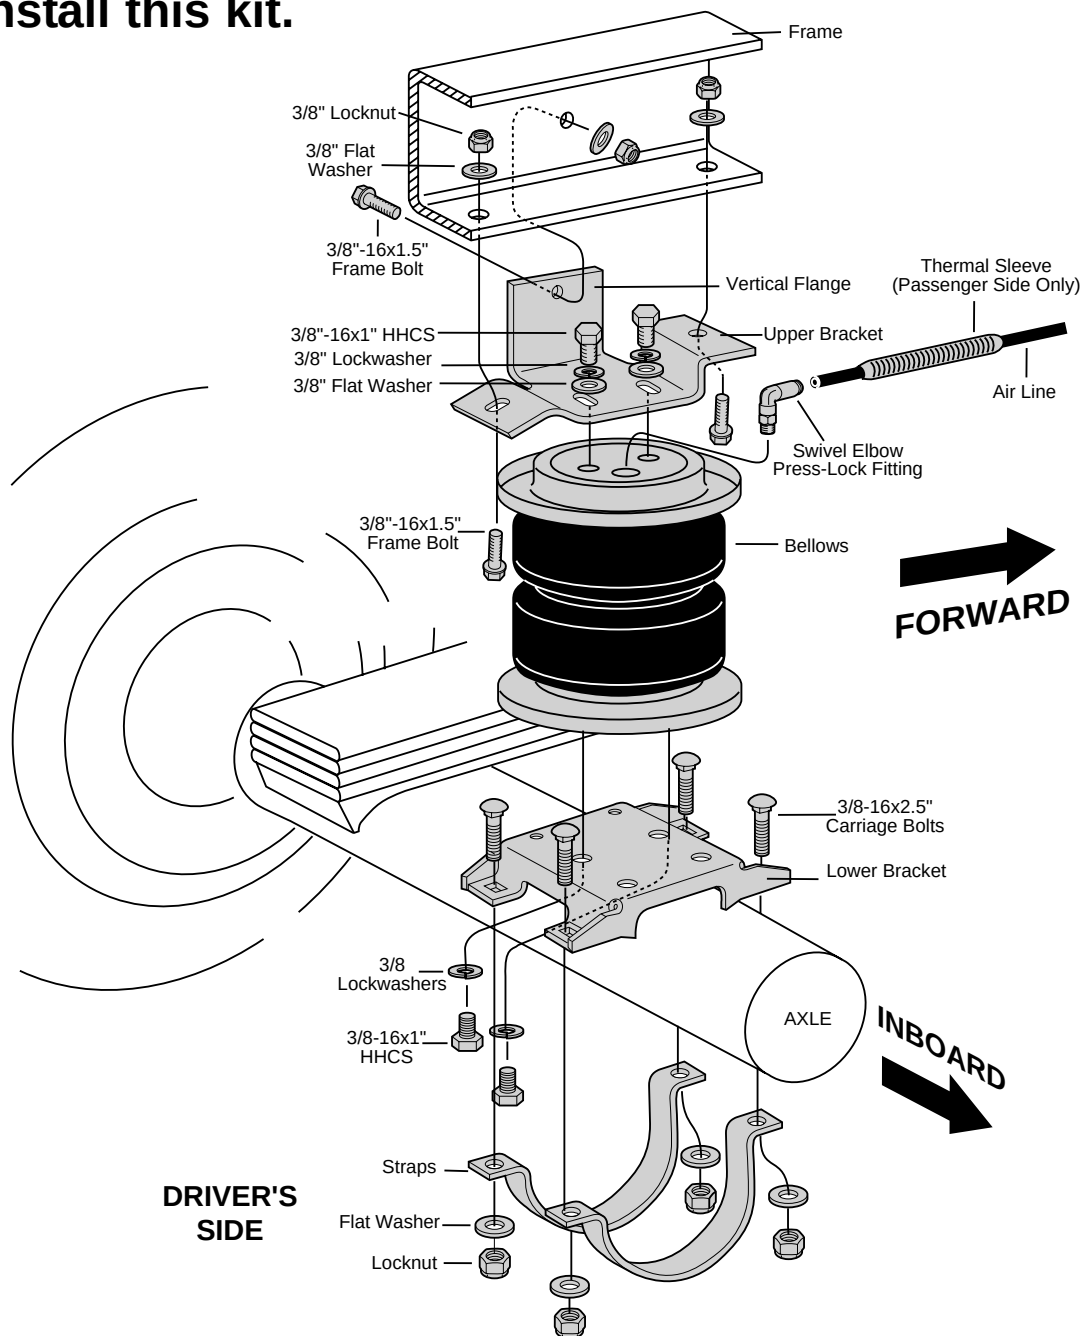
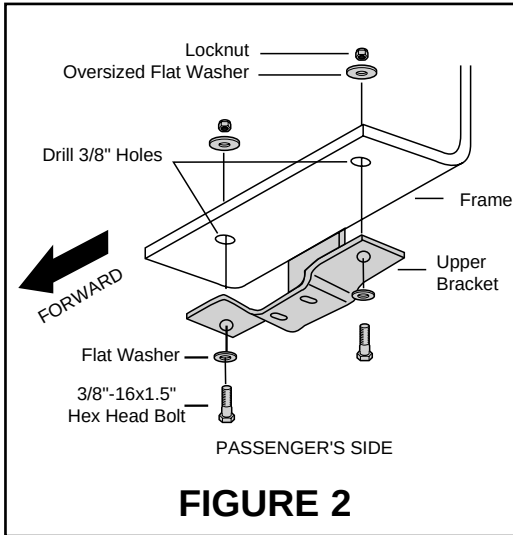

FIGURE 1
FIGURE 2
5. Position the vertical flange of the upper bracket away from the air fitting port and attach to the bellows using 3/8"-16x1" mounting bolts, flat washers, and lock washers. Attach the lower bracket to the bottom plate (non labeled end) of the bellows. Use the mounting holes on the lower bracket that best lines up the air spring with the upper bracket so that it follows the natural arc of the suspension. The air fitting must face inboard (toward the center - Figure 1). Attach with two 3/8"-16x1" bolts and lockwashers. Torque to 15-20 ft-lbs.
6. Place the assembly on the axle housing and align so that the bellows follows the natural arc of the suspension travel. **NOTE: There is a right and left hand unit. Position the upper bracket as pictured in Figure 1 and Figure 2.** Attach lower bracket to axle housing loosely using axle clamp, 3/8"-16x2.5 carriage bolts, flat washers and lock nuts.
7. Raise the axle or lower the frame until the axle is in the normal (no load) position. Using the holes on each end of the upper bracket as a template, mark and drill two 3/8" diameter holes in the bottom of the frame rail. Install the 3/8"-16x1.5" bolts, flat washers, lock nuts and tighten to 15-20 ft.lbs (Figure 2).
8. With the upper bracket in this position, and using the bracket as a template, mark and drill the 3/8" hole on the outboard side of the frame rail and upper bracket. Install the 3/8"-16x1.5" bolt, flat washer and locknut and tighten to 15-20 ft.lbs. (Figure 1).
9. Check the alignment of the assembly and tighten the 3/8" lock nuts and torque to 15-20 ft. lbs. (Figure 1).
TO PREVENT AIR LINE FROM MELTING, KEEP IT AT LEAST TWELVE INCHES FROM EXHAUST SYSTEM. USE THERMAL SLEEVE ON EXHAUST SIDE (FIGURE 1).